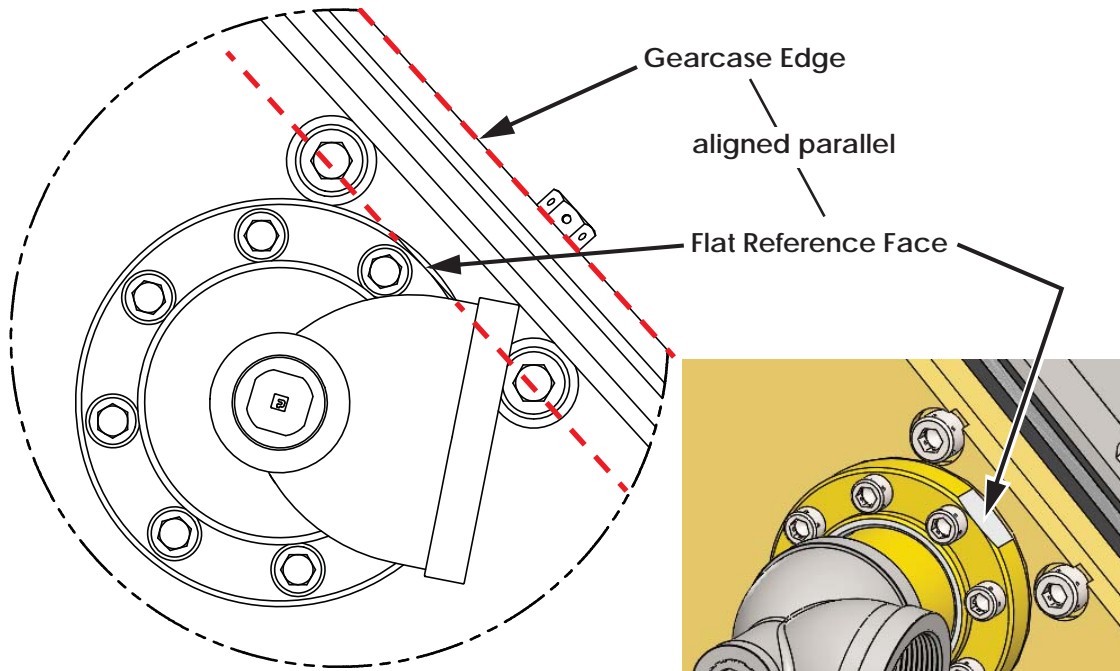

Figure 2: Drain Elbow Alignment
5. Ensure the flat reference face on the drain elbow is aligned parallel to the edge of the gearcase as shown in Figure 2 on page 2.